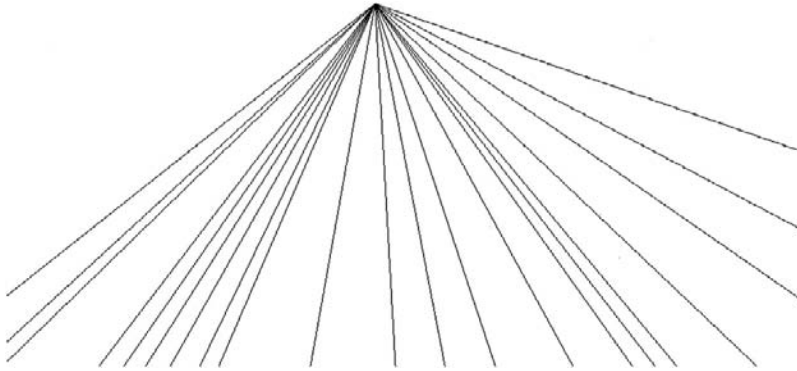

FIGURE 11.14
Step 3. Click anywhere and a ray is created (Figure 11.14).